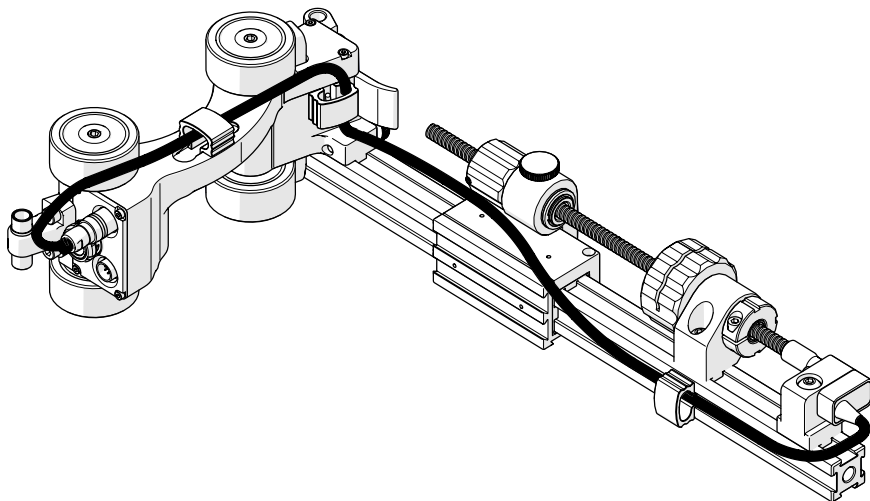

Fig. 72 - Route encoder cable and plug into the low profile link's ENC 1 port
4. Route the encoder cable to the low profile link (*Fig. 72*).
5. Plug the encoder cable into ENC 1 of the low profile link (*Fig. 72*).